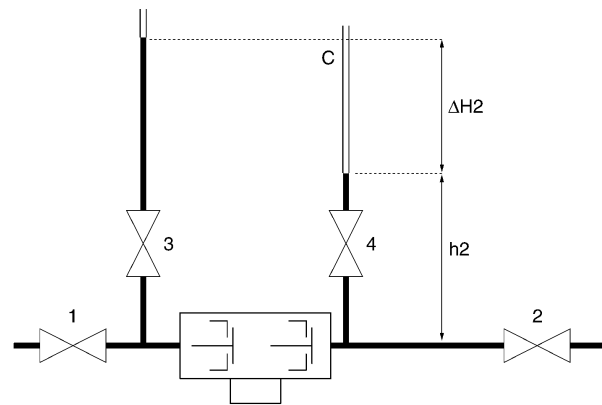

Figure 30B
- (g) Note the height difference  $\Delta H_2$  (See Figure 30B).